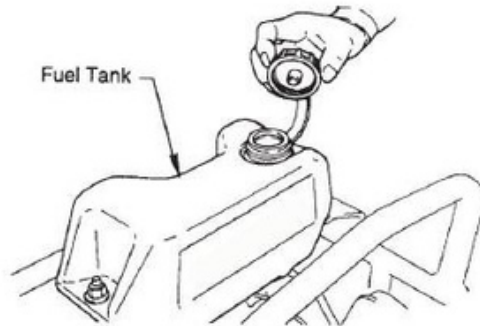

Fig 3
1. Fill the fuel tank (Fig 3) with unleaded gasoline. At the same time, check the engine oil and make it a habit to replenish it often.